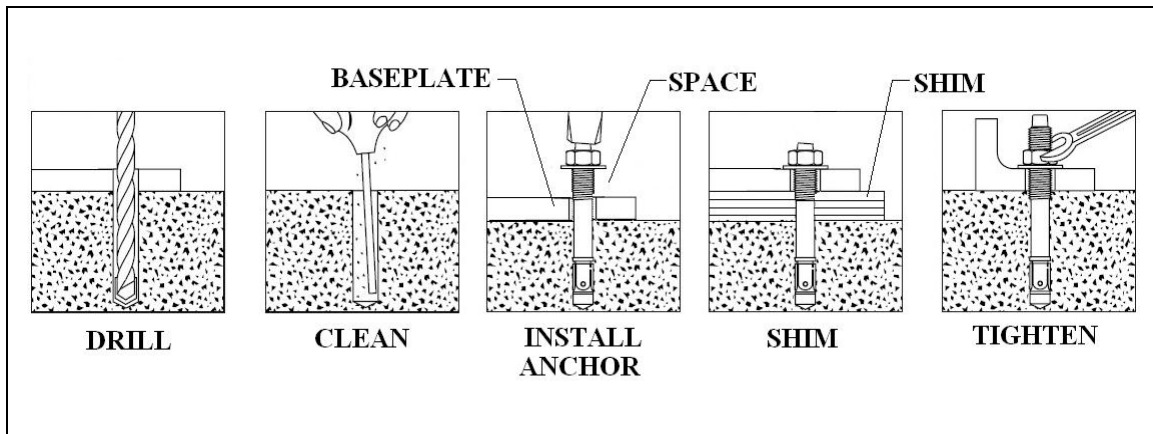

Figure 6. Anchor installation
1. Refer to Figure 6 while reading through these instructions.